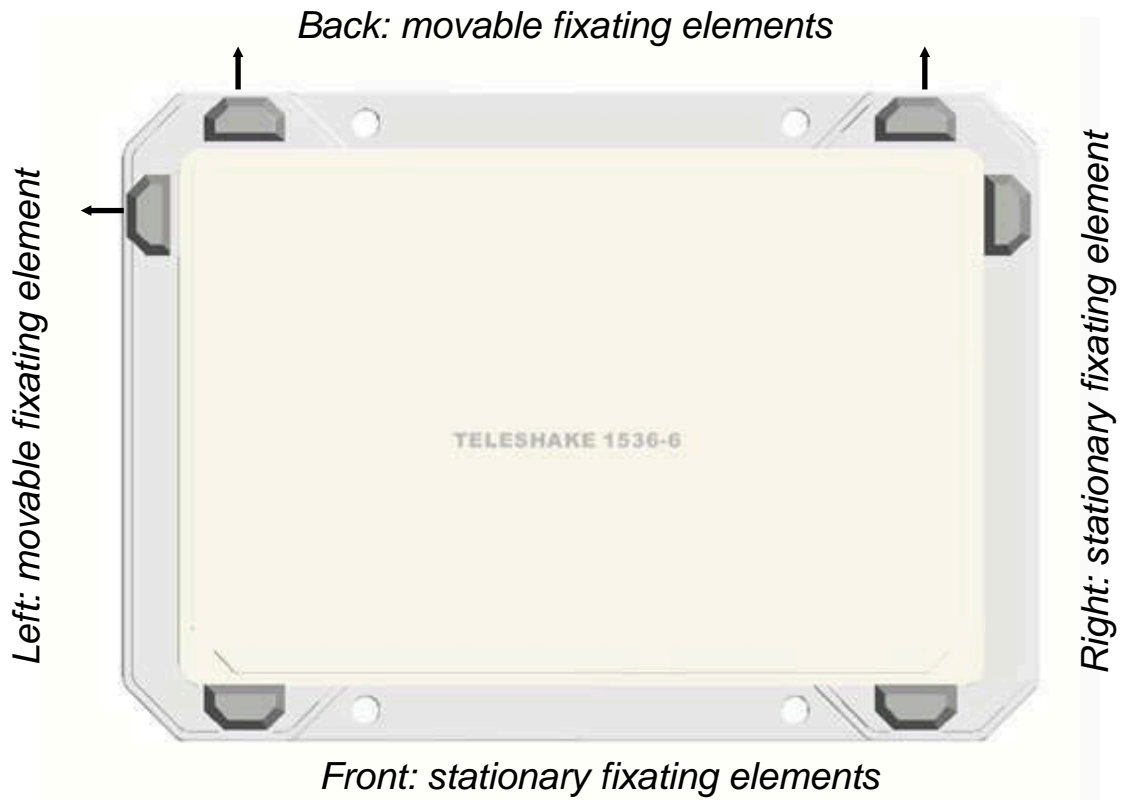
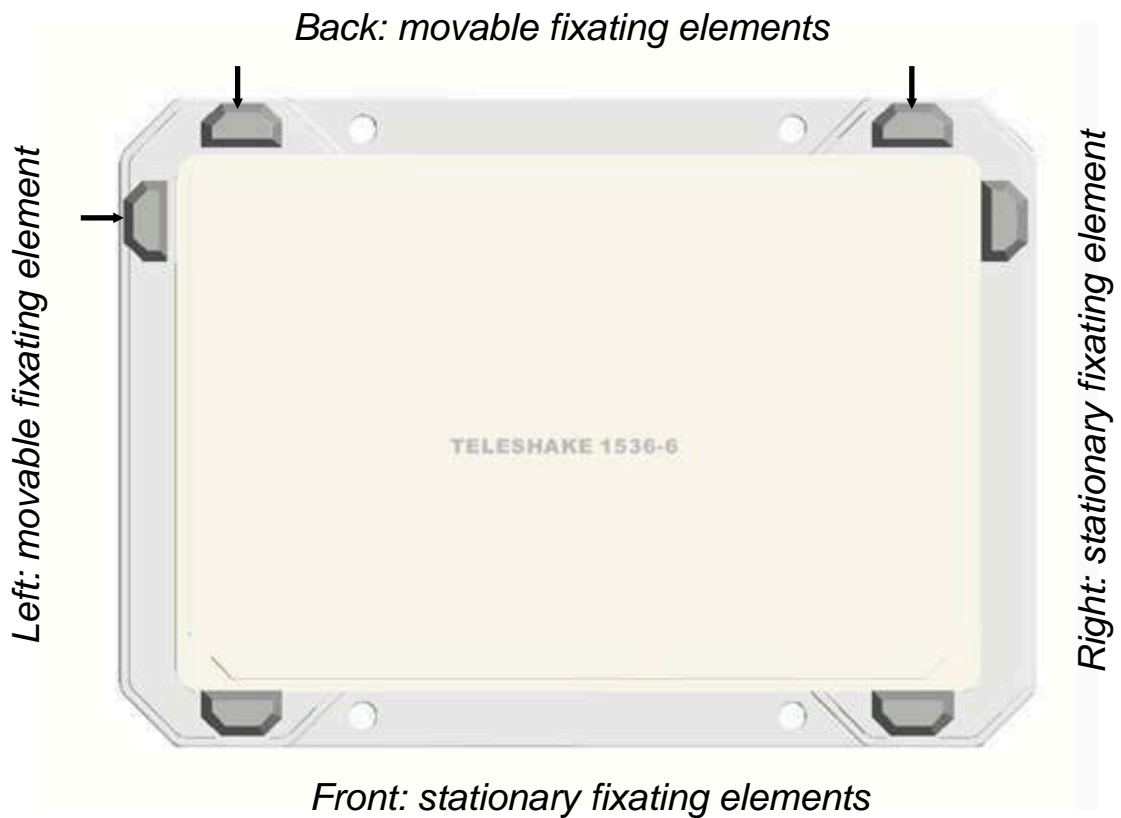
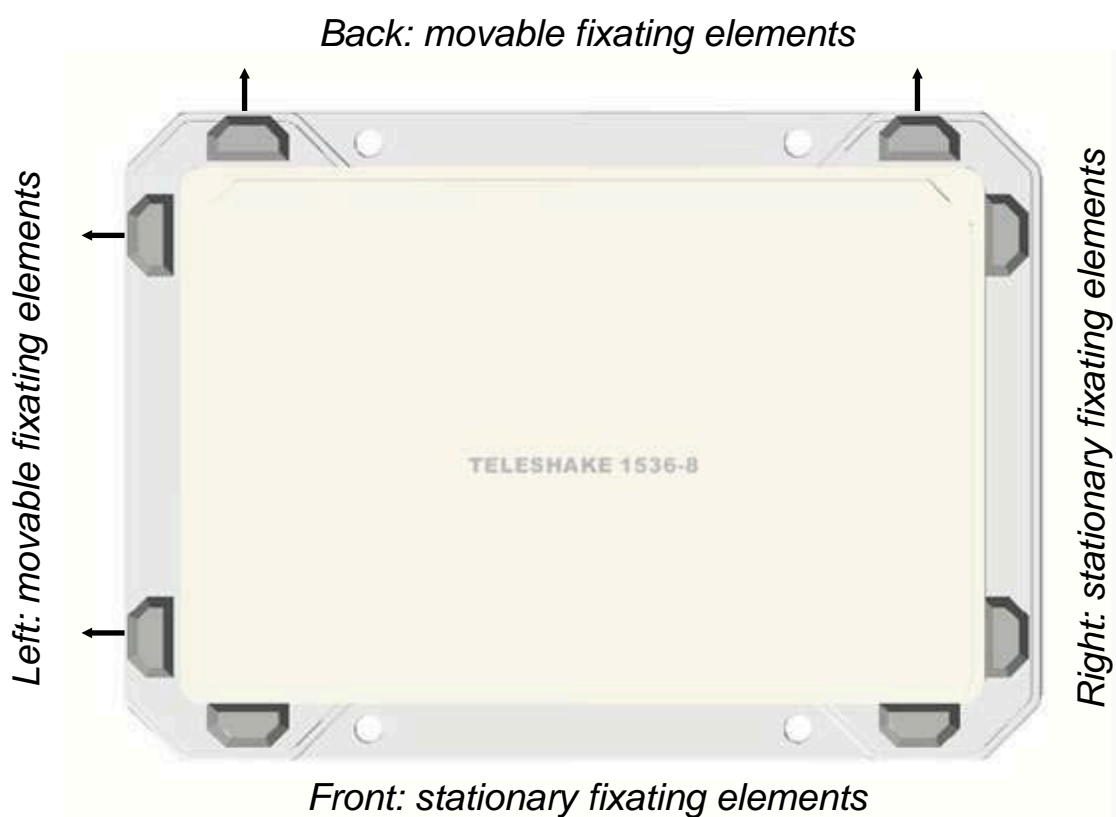
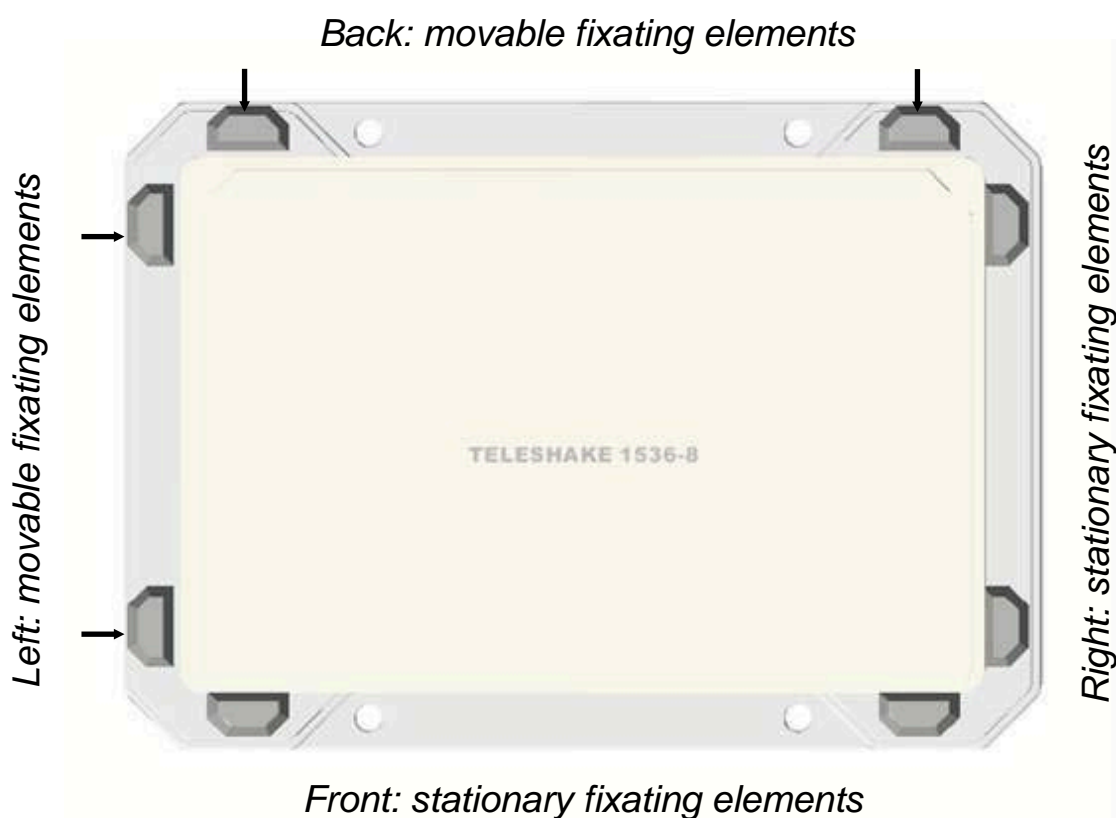

Figure 6 : TELESHAKE 1536-6, open fixating elements
Figure 7 : TELESHAKE 1536-6, locked fixating elements
Figure 8 : TELESHAKE 1536-8 and LIFT, open fixating elements
Figure 9 : TELESHAKE 1536-8 and LIFT, locked fixating elements
**TELESHAKE 1536-6:** three movable and three stationary fixating elements (Figure 6 and Figure 7),
**TELESHAKE 1536-8:** four movable and four stationary fixating elements (Figure 8 and Figure 9).
- Frequency selection knob (11) on position OFF
→ Fixating elements (3) open (see Figure 6 and Figure 8)
- Frequency selection knob (11) on shaking frequency
→ Fixating elements (3) locked (see Figure 7 and Figure 9)